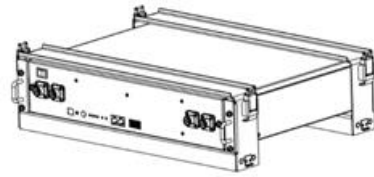

Figure3-4
1. Place the B4850 and brackets as shown in the figure3-4, and insert the B4850 into the brackets. Use 4 screws to fix the module on the front bracket.